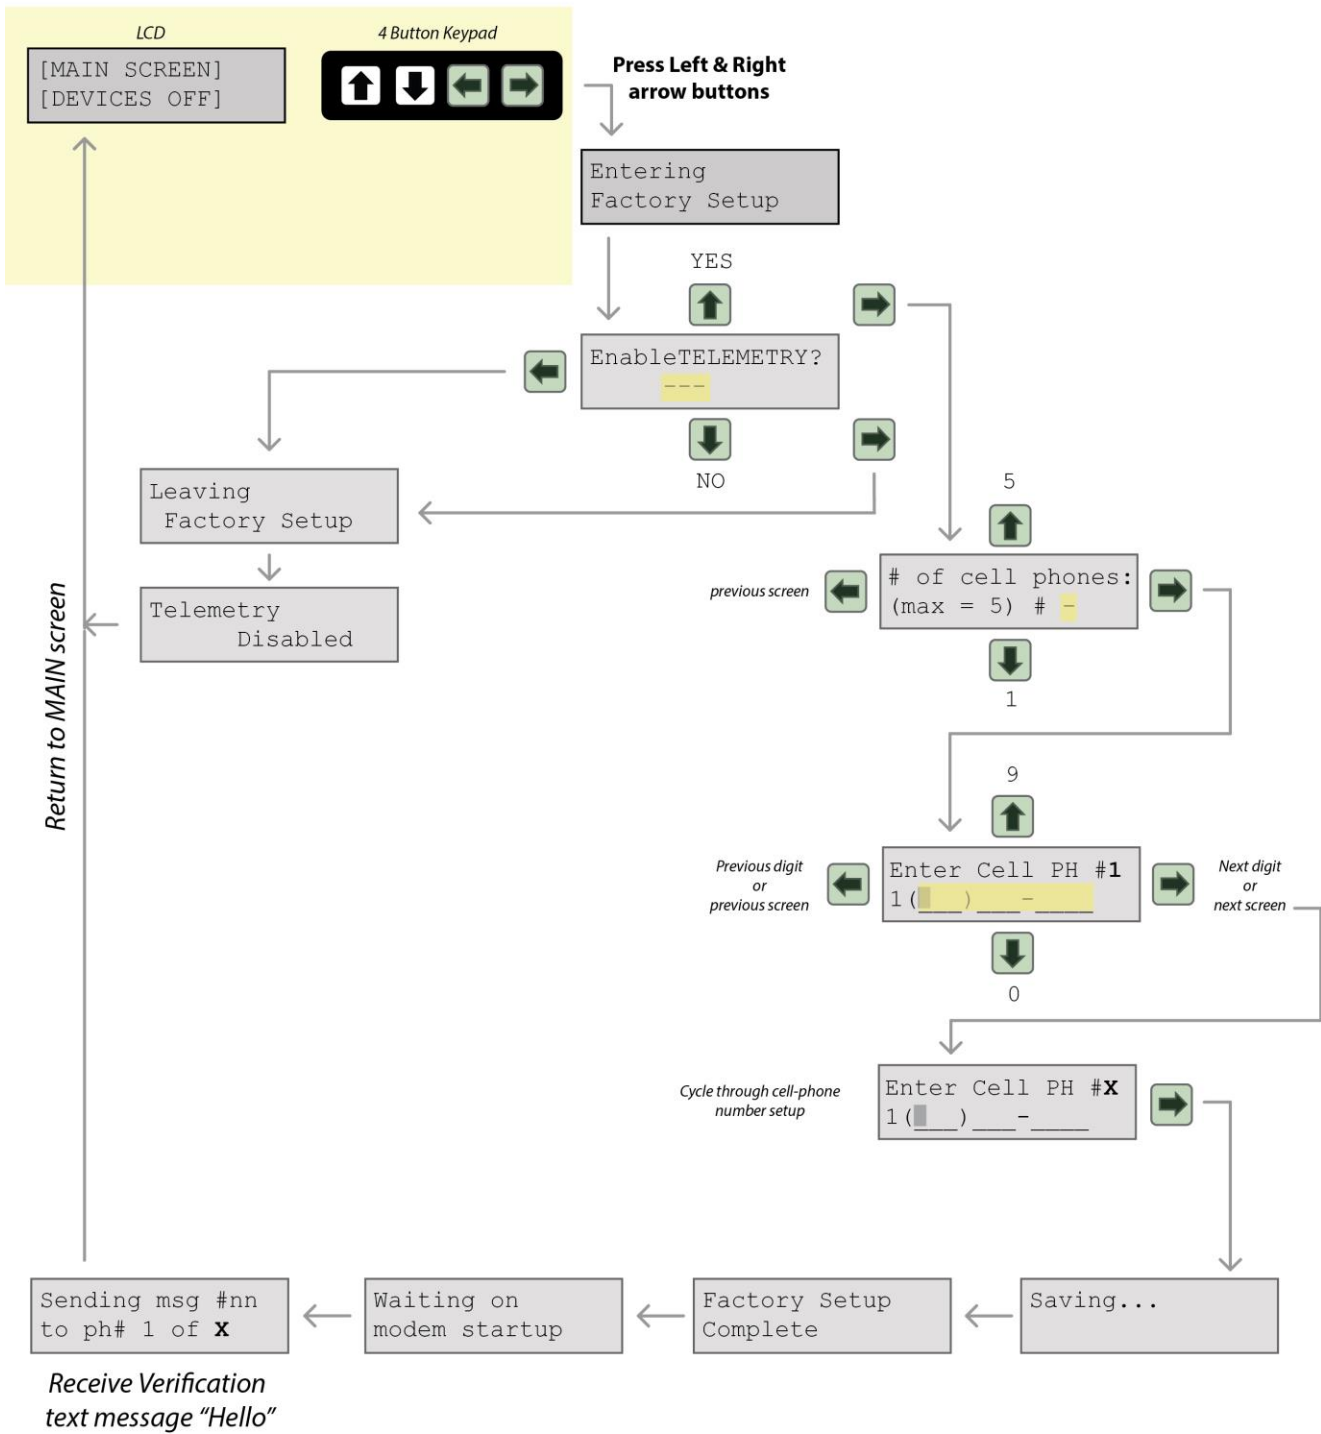

Figure 4-2: Telemetry Enable/Configure User Interface flow chart
4. Use the flow chart (Figure 4.2) to enable and configure, or disable telemetry settings.